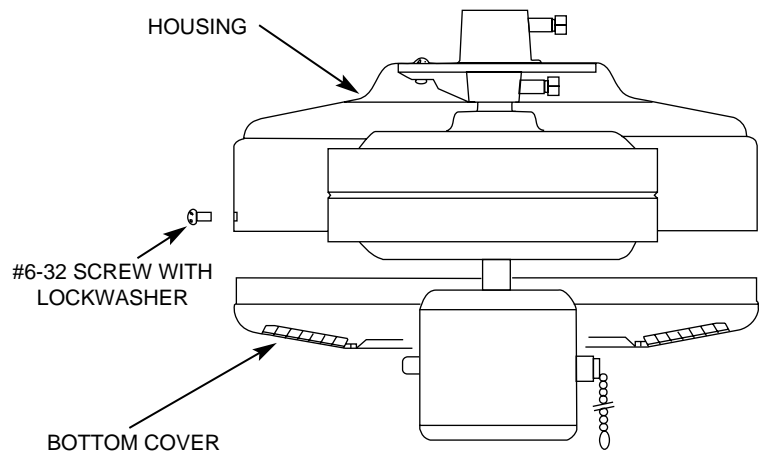

FIGURE 5B
C. Assemble bottom cover to fan housing using (3) #6-32 screws and lockwashers supplied in sack parts. Make certain screws are tight (see Figure 5B).